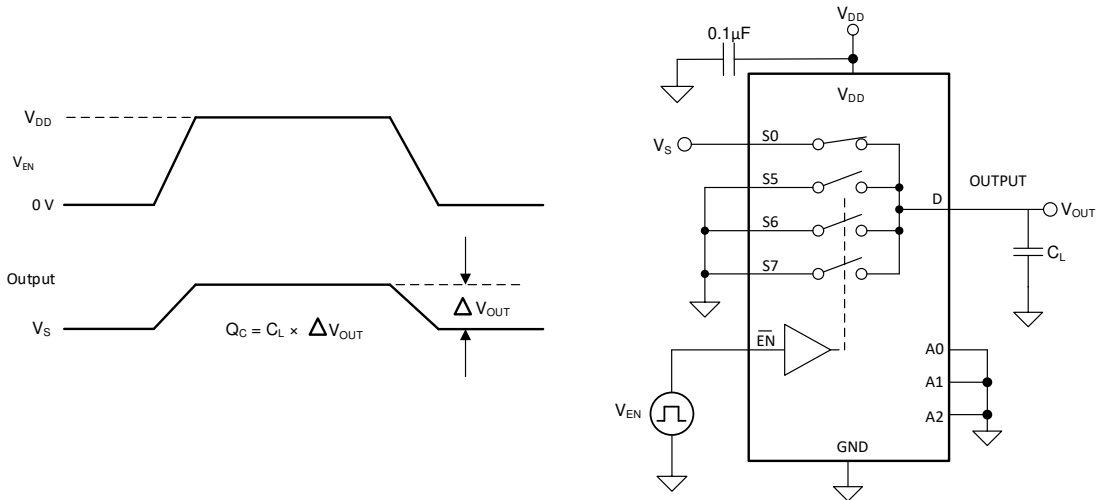

Figure 8-7. Charge-Injection Measurement Setup
The TMUX1308-Q1 and TMUX1309-Q1 device have a transmission-gate topology. Any mismatch in capacitance between the NMOS and PMOS transistors results in a charge injected into the drain or source during the falling or rising edge of the gate signal. The amount of charge injected into the source or drain of the device is known as charge injection, and is denoted by the symbol  $Q_C$ . Figure 8-7 shows the setup used to measure charge injection from source ( $S_x$ ) to drain (D).